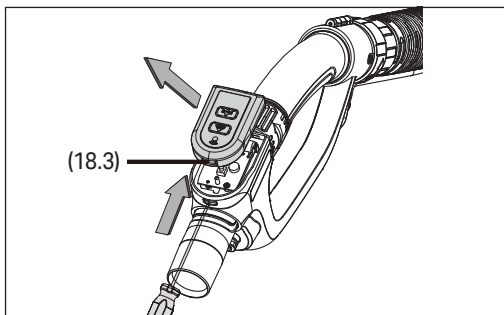
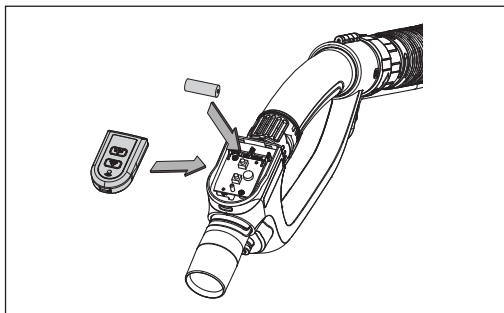

Fig. 5
Fig. 6
7.4 Fitting and Replacing the Remote Control Handle Battery (Fig. 5 & Fig. 6)